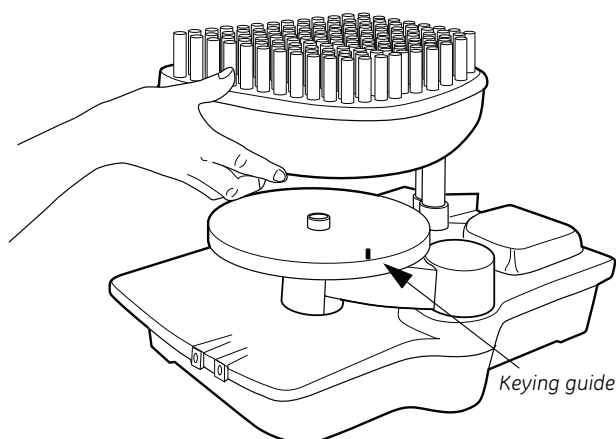

Figure 2-8. Fitting the rack to the rack holder.
- 2 Fit the rack to the rack holder using the keying guide on the holder to position it correctly, see Figure 2-8. Turn the rack on the holder until it snaps firmly in position.